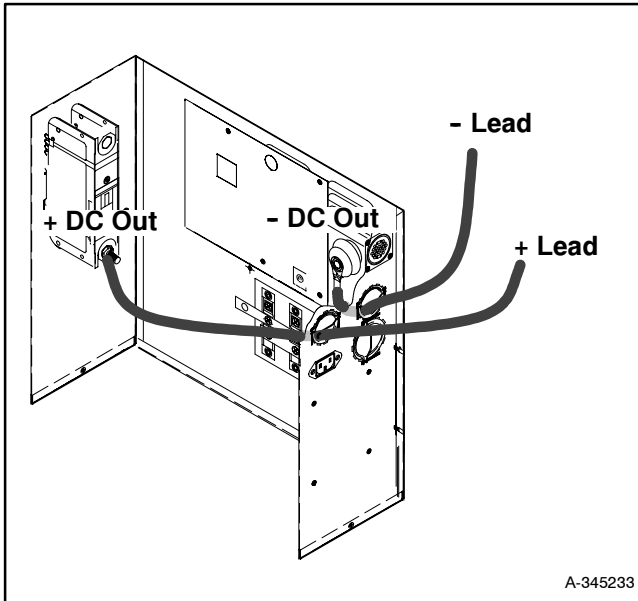

Figure 1 Standard COM-6 DC Output Connections
Standard units have the circuit breaker connected on the positive (+) side of the DC output. Connect the output leads inside the controller box as described below and shown in Figure 1.
2. Connect the negative (-) output lead to the red (or orange) insulated stand-off in the upper back corner of the control box. See Figure 1.